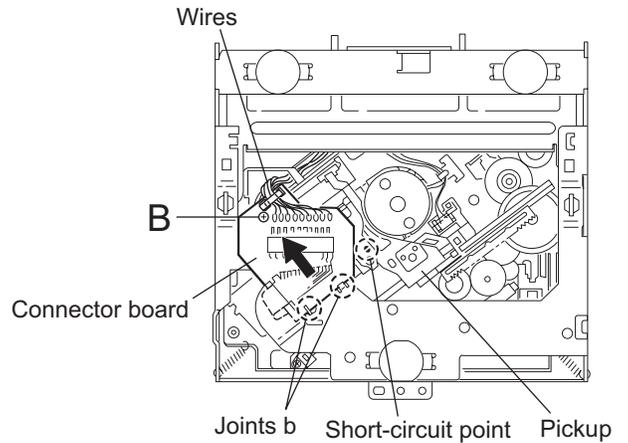

Fig.3
3.2.2 Removing the connector board (See Figs.3 to 5)